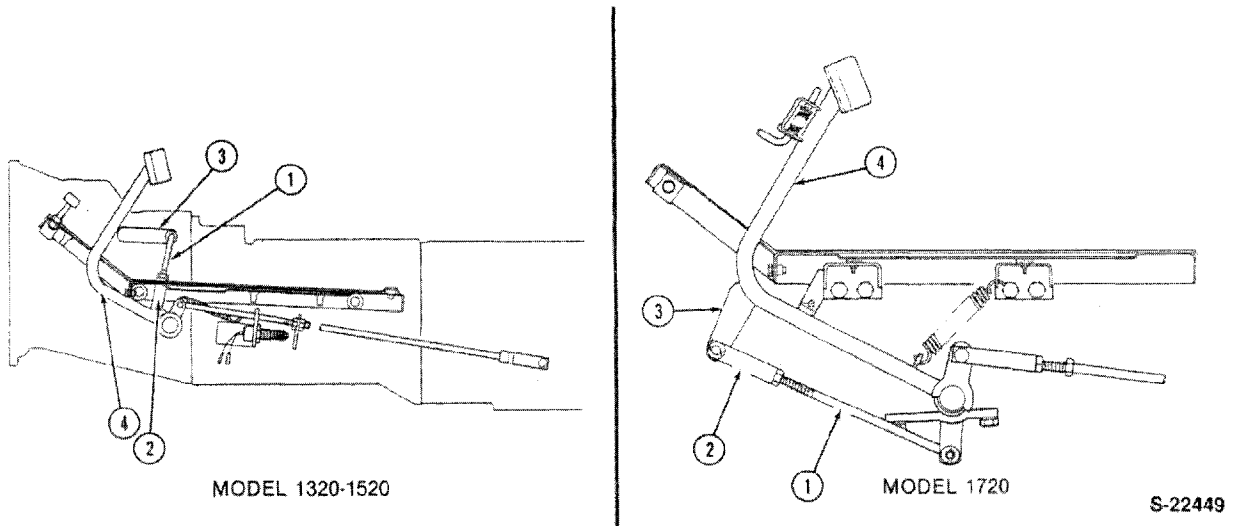

Figure 3
Reference — Figure 3
1. Remove the cotter pin securing the adjustment rod (1) to the bellcrank, Figure 3.
- Remove the cotter pin securing the adjustable rod to the bellcrank (3), Figure 3.